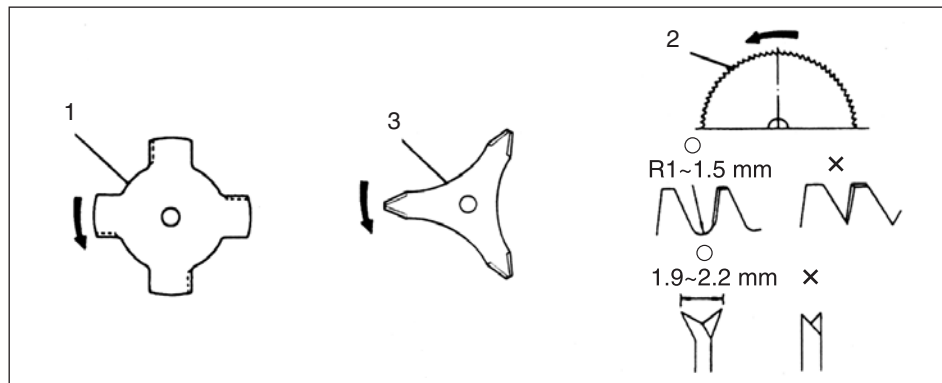

Fig. 3-6
**Blade (Fig. 3-6)**
- When installing saw blade (2), always face the stamped side up. In the case of a 3 or 4 tooth blade (1, 3), it can be used on either side.